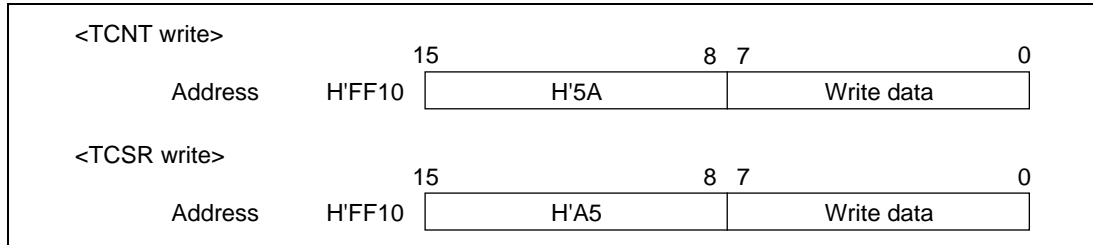

Figure 13-2 Format of Data Written to TCNT and TCSR
(1) Writing to TCNT and TCSR: These registers must be written by word access. They cannot be written by byte instructions. Figure 13-2 shows the format of data written to TCNT and TCSR. TCNT and TCSR both have the same write address. The write data must be contained in the lower byte of the written word. The upper byte must contain H'5A (password for TCNT) or H'A5 (password for TCSR). This transfers the write data from the lower byte to TCNT or TCSR.